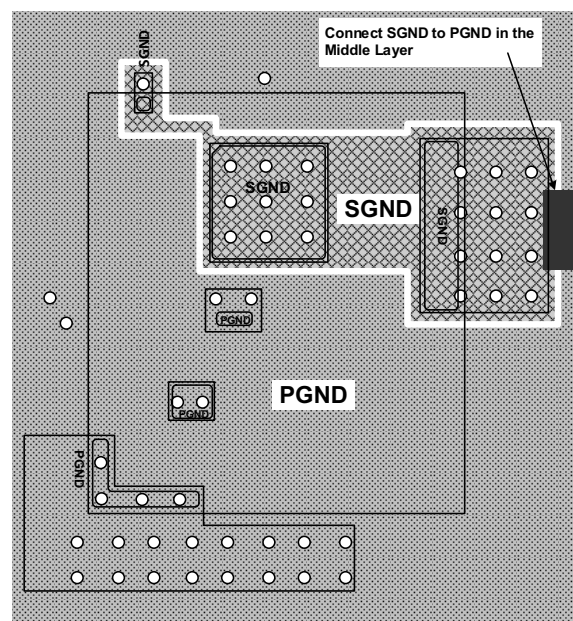

Figure 28. Recommended Layout - Connect SGND to PGND in the Middle PCB Layer after Establishing Separate SGND and PGND
- Establish a separate SGND plane and PGND plane, then connect SGND to the PGND plane as shown in Figure 28 in the middle layer. For making connections between SGND/PGND on the top layer and other layers, use multiple vias for each pin to connect to the inner SGND/PGND layer. Do not connect SGND directly to PGND on a top layer. Connecting SGND directly to PGND without establishing an SGND plane bypasses the decoupling capacitor at internal reference supplies, making the controller susceptible to noise.